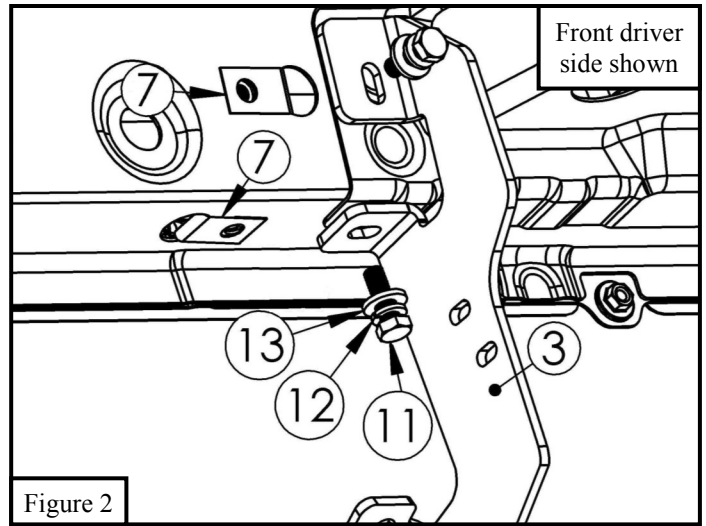

Figure 2
3. Locate (1) mounting bracket A and loosely secure it to the driver side rocker panel mount locations using the provided hardware: (2) M8 hex head bolt, (2) M8 flat washer, (2) M8 lock washer, and (2) M8 u-nut clip. See **Figure 2**.